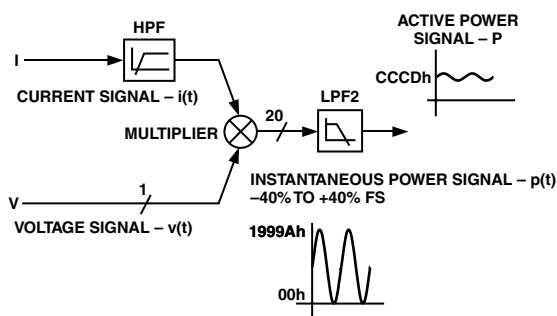

Figure 34. Active Power Signal Processing
Figure 34 shows the signal processing chain for the active power calculation in the ADE7759. As explained, the active power is calculated by low pass filtering the instantaneous power signal.
As mentioned in the last section, the discrete time sample period (T) for the accumulation register is $1.1 \mu\text{s}$ ($4/\text{CLKIN}$). With full-scale sinusoidal signals on the analog inputs, digital integrator turned off, and the active power gain register set to 000h, the average word value from LPF2 is CCDh—see Figures 34 and 35. The maximum value that can be stored in the active energy register before it overflows is 2^{39} or